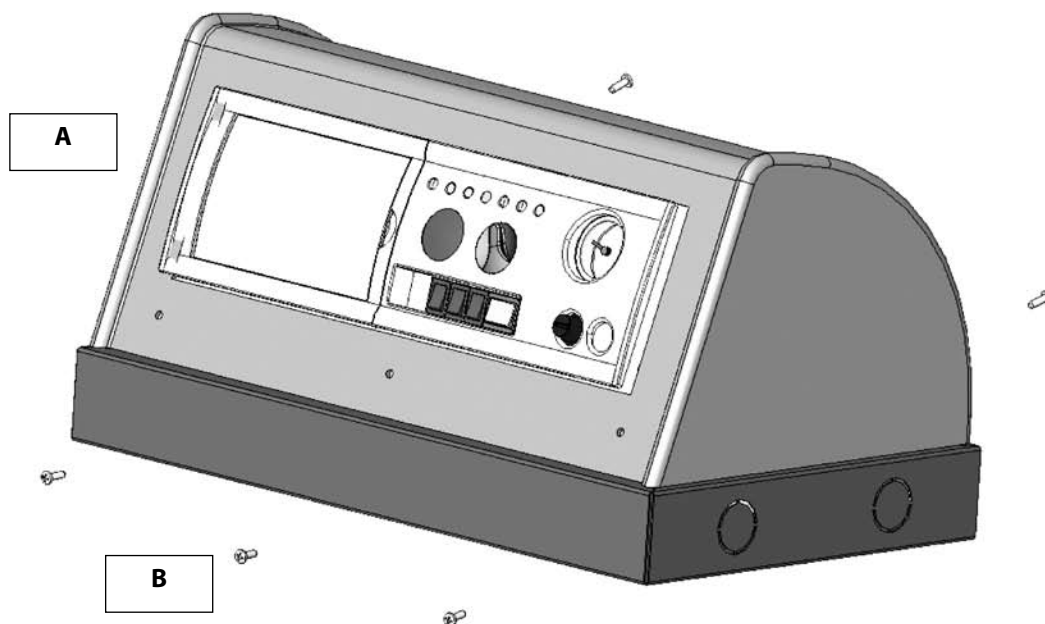

fig. 30
- 2)** re-install the satellite cap (**A**, fig. 30) using the screws provided (**B**, fig. 30).